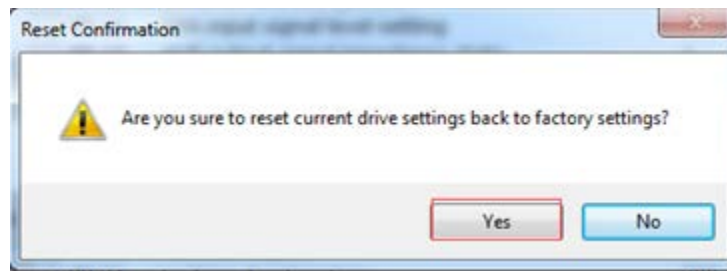

Figure 18: resetting confirmation message
- Click Drive->Reset menu item. The confirmation message will be popped up (Figure 18).